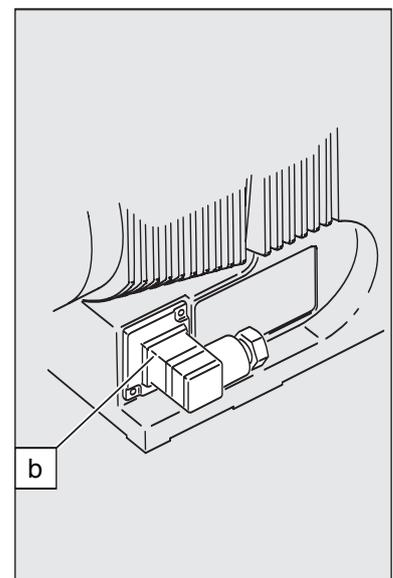

Fig. 19
- ▶ Insert the relay cable plug seal into the relay cover and screw on the plug (see fig. 19)